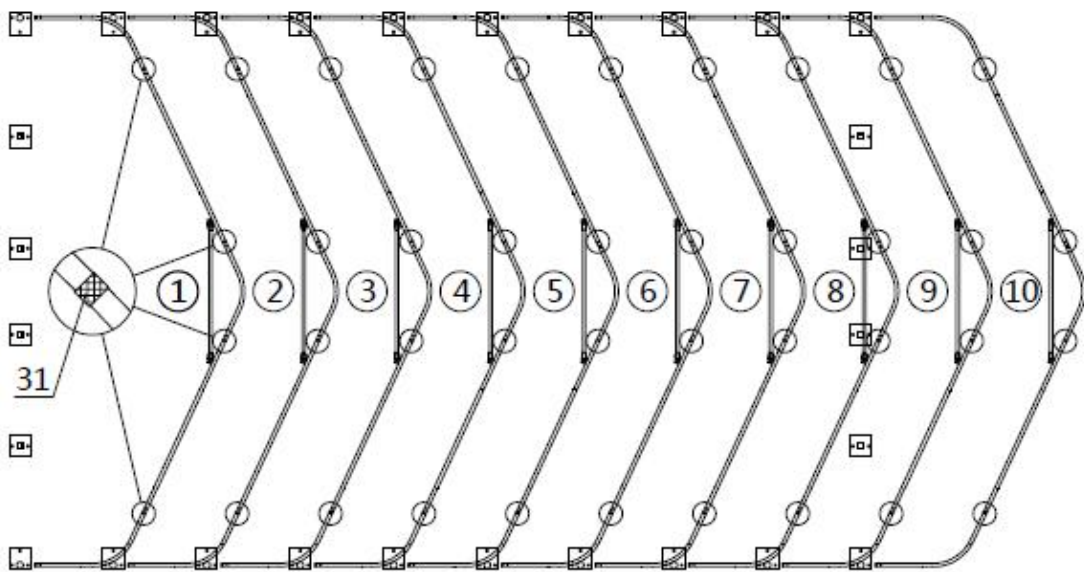

Figure 4
- Lay down all (10) trusses on the ground when the assembly is all completed and before moving to next step, and then wrap (#31) around the sharp points of the joint to avoid friction between the fabric and the interface, resulting in fabric damage. (refer to figure 4)
- (2) Adhesive tape (#31)